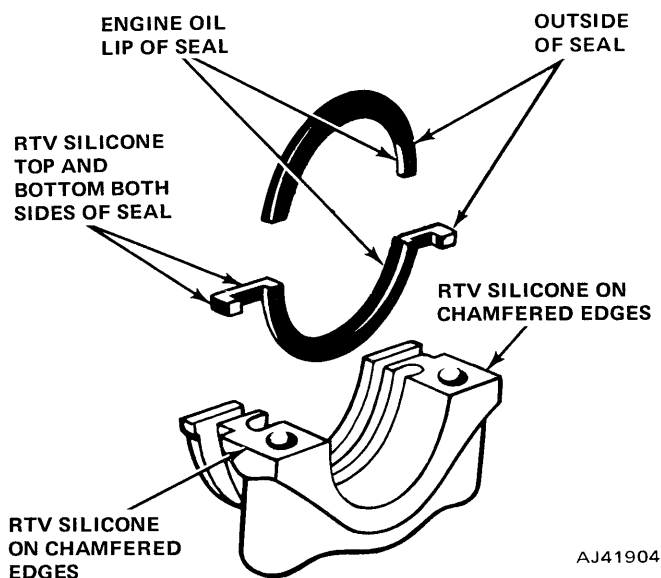

Fig. 1A-36 Rear Main Oil Seal and Cap Installation
(7) Coat both sides of lower seal end tabs with Jeep Gasket-in-a-Tube (RTV silicone), or equivalent, being careful not to apply sealer to lip of seal.
(8) Coat outer curved surface of lower seal with soap and lip of seal with engine oil.
(9) Install seal into cap recess and seat it firmly.
(10) Coat with Jeep Gasket-in-a-Tube (RTV silicone), or equivalent, on both chamfered edges of rear main bearing cap (fig. 1A-36).